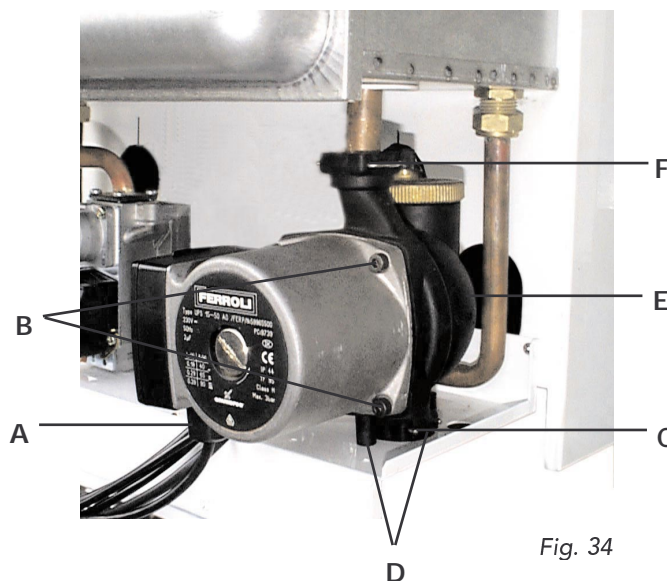

Fig. 34
7.15 Pump (fig. 34) Replacement of pump head
Replacement of pump body (fig. 34)